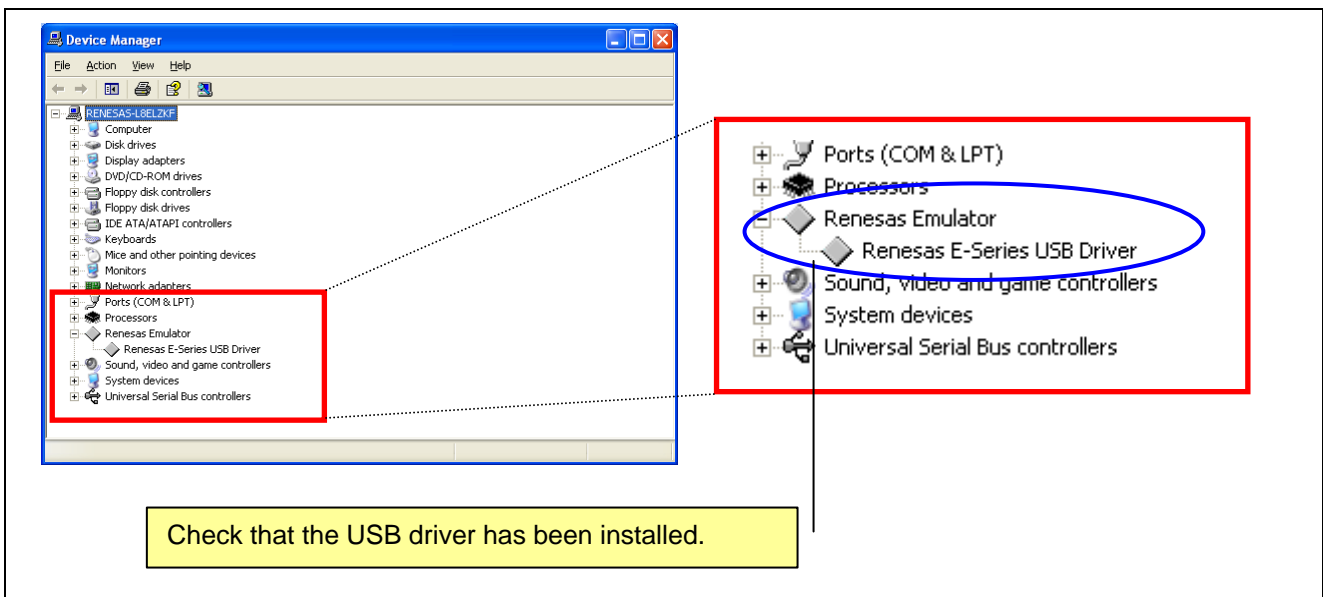

Figure 3.18 Device Manager
- (3) Check that [Renesas E-Series USB Driver] is shown under the [Renesas Emulator] category (Figure 3.18).